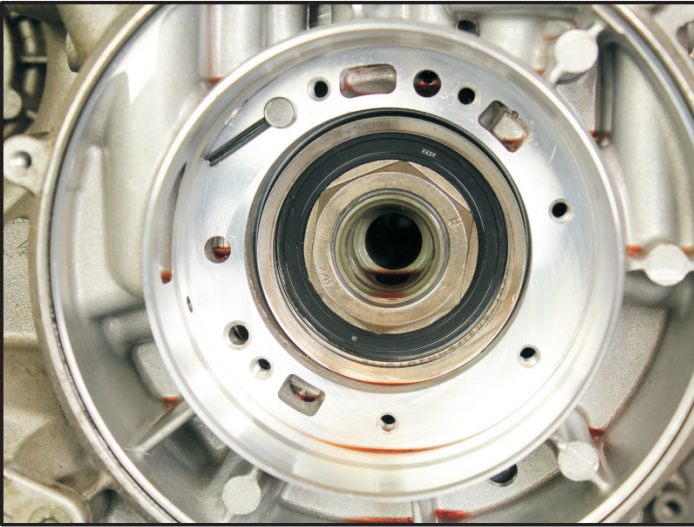

Figure 8
- f. Remove the pump (figure 7). It should pop forward due to a beveled cushion plate sitting at the bottom of the pump pocket (figures 8).